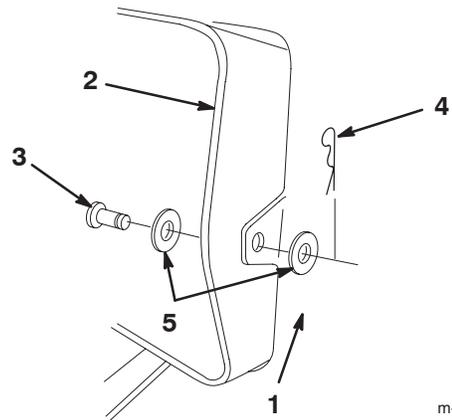

Figure 13
7. Raise the grass collector and remove the hairpin, 2 washers, and clevis pin that secure the discharge tube to the rear plate (Fig 13).
- Raise the grass collector and install the clevis pin, 2 washers, and hairpin to secure the discharge tube to the rear plate (Fig 13).
- Raise the grass collector and remove the hairpin and clevis pin that secure the discharge tube to the rear plate (Fig 13).
- Raise the grass collector and install the clevis pin and hairpin to secure the discharge tube to the rear plate (Fig 13).